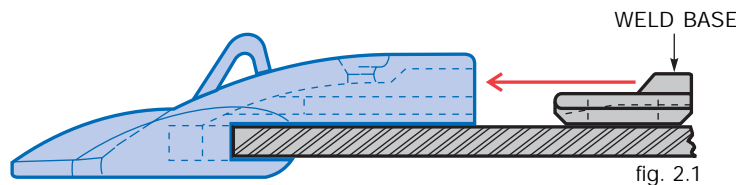

fig. 2.1
STEP 2 Slide weld base from the rear into the receiving slots of the shroud (fig. 2.1).